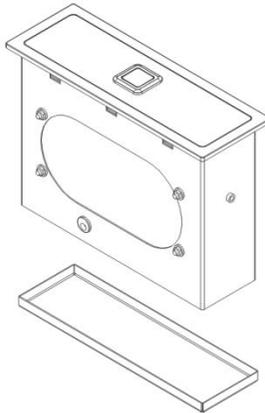

Fig. 4 – Remove Access Cover
- 5.4 Remove the Access Cover from bottom of the Source Capture[®] Vent, as shown in Fig. 4.